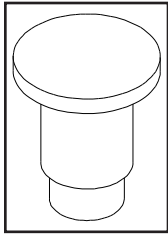
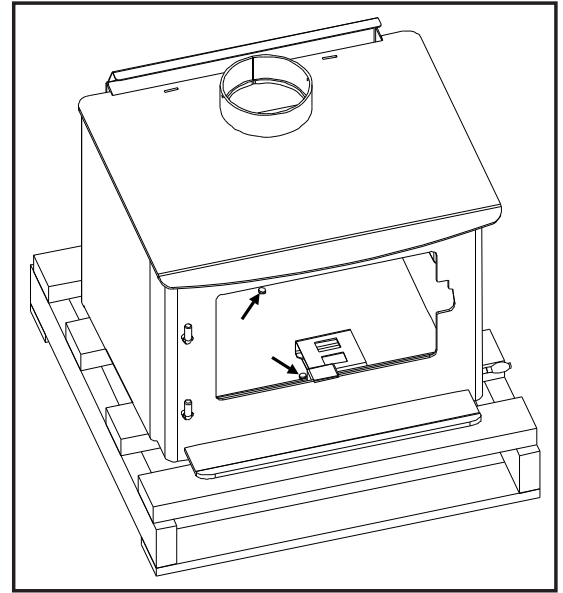

Figure 14:
Figure 15: Bolts to remove.
- Remove the two (2) carriage bolts (shown in Figure 15) that secure the unit to the pallet from inside the firebox.
Note: After the pedestal or legs and ash pan have been installed but before the bricks are installed, rivets (Figure 14) must be placed in the two (2) holes (shown in Figure 15) in the firebox that carriage bolts came out of. This is done to make unit burn more efficiently. The shoulder rivets are found in the manual bag.